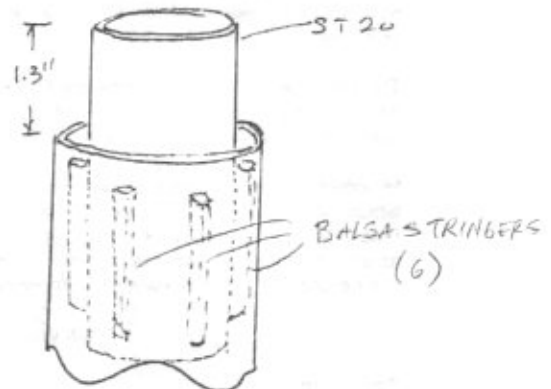

Figure 3
- 8) Apply a light coat of glue to the top inside 2" of the BT70. Slide the ST20 into the tube until the pencil mark lines up with the top of the tube. (See figure 3) Allow to dry.